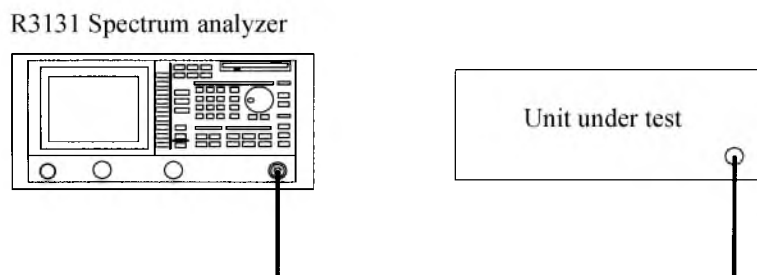

Figure 2-59 Setup for Measuring the Occupied Bandwidth
1. Connect the unit under test as shown in Figure 2-59.